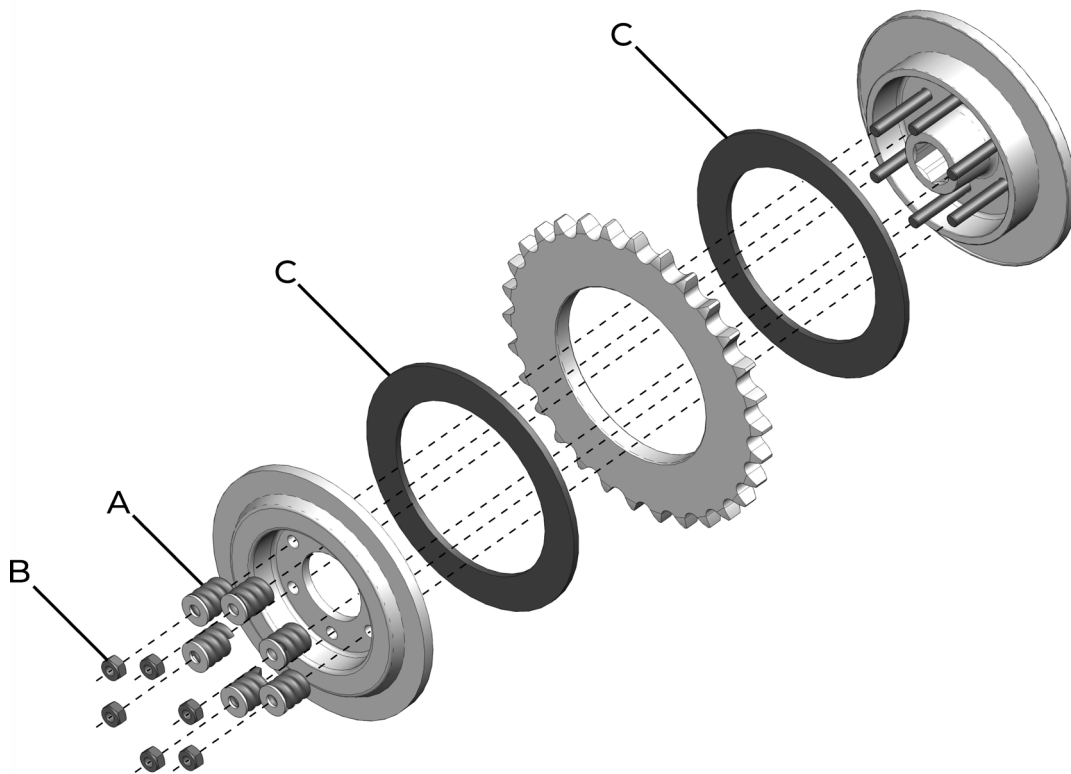
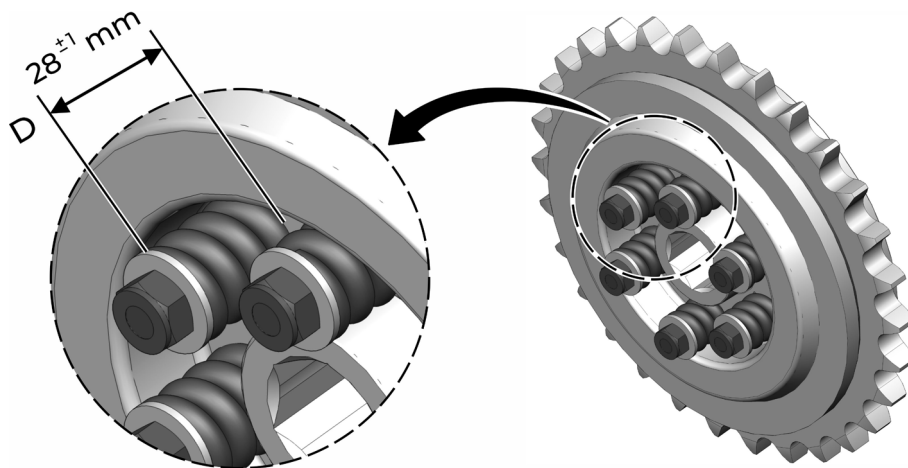

fig. 46
fig. 47
1. Disassemble the clutch, removing all nuts (B) (*fig. 46*). To disassemble the clutch you must remove the drive shafts;
2. Assess the friction discs (C) (*fig. 46*) and replace if they present wear or “fractures”;
3. Reassemble the clutch observing the spring (D) (*fig. 47*) closure measurement (A) (*fig. 46*). Keep in mind that this is an initial adjustment, and further adjustments might be required during the harvest if the clutch skids.